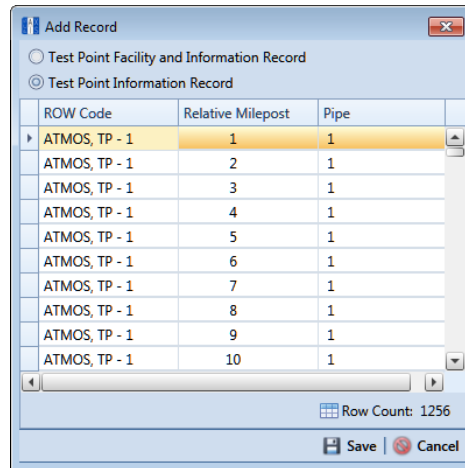

Figure 7-6. Add Record
- 6 Click **Add** to open the *Add Record* dialog box (Figure 7-6). Then continue with one of the following steps: